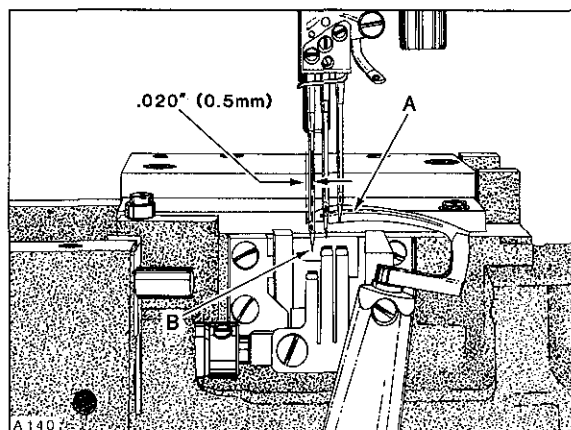
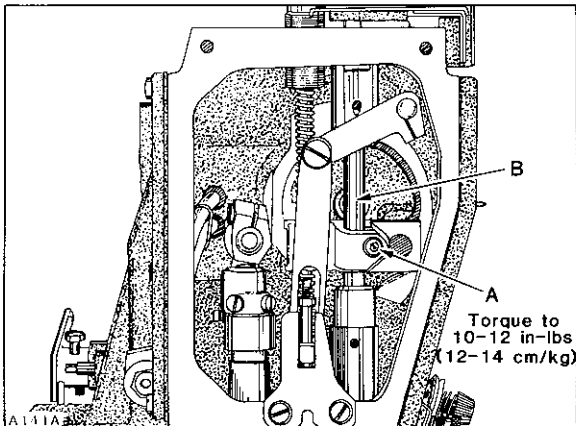

Fig. 10
Fig. 11
Needle bar height is set correctly when the point of looper (A, Fig. 10) moving from right to left, is .020 inch (0.5mm) to the LEFT side of the LEFT needle (B) with its underside even with the TOP of needle eye. Adjustment can be made by loosening screw (A, Fig. 11) and move needle bar (B) up or down as required. TORQUE screw (A) to 10 - 12 in-lbs (11.5 - 14 cm/kg).